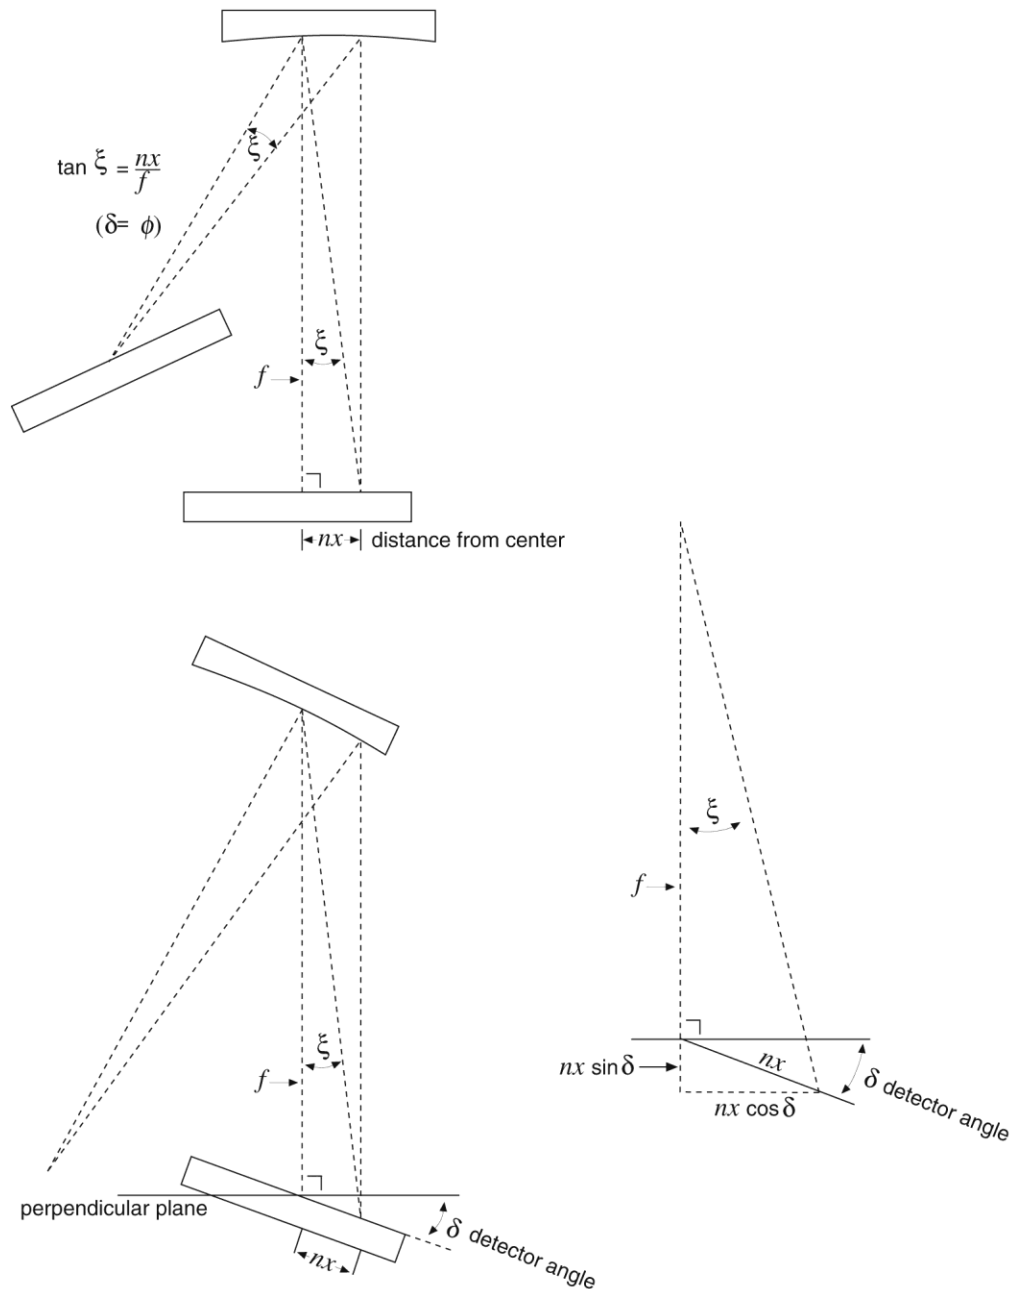

Figure 204. Relationship between ξ and the focal length, detector angle, and the distance of λ' from image plane
Note that the wavelength at the **center** of the exit plane does not depend on the focal length, f . However, the wavelength at points off center depends on both the focal length and the detector angle, δ (the angle of the image plane relative to the plane perpendicular to the spectrograph focal axis at the center of the image plane; see Figure 204). For some wavelength λ' relatively close to λ (at the same grating angle),
$$\mathbf{tan} \xi = (\mathbf{nx} \cos \delta) / (f + \mathbf{nx} \sin \delta), \text{ as shown in Figure 204.} \quad (4)$$